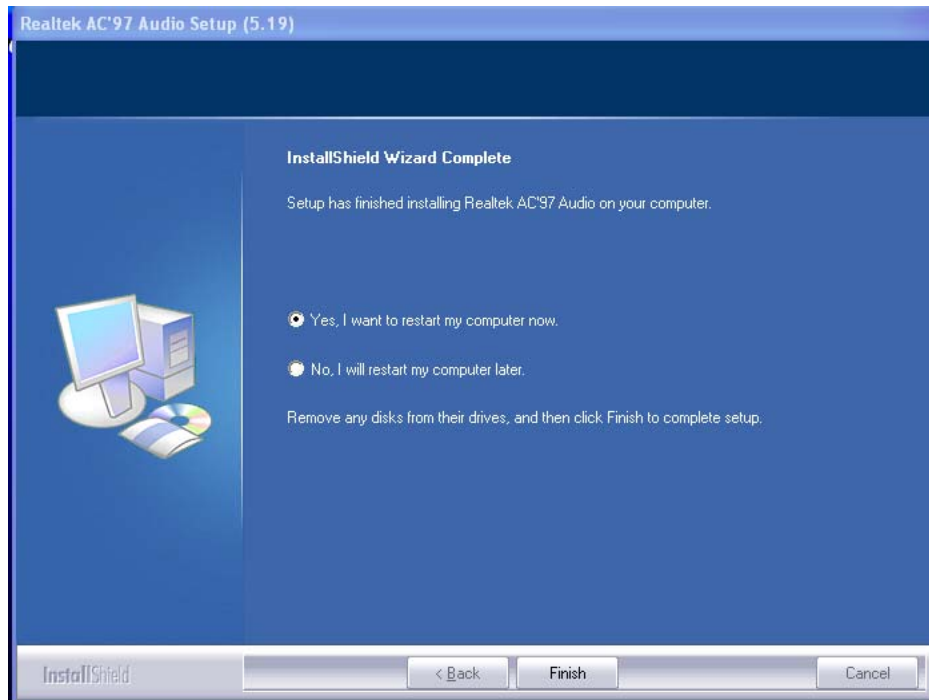

Figure 7-29: AC'97 Driver Installation Complete
Step 8: When the driver is installed, the driver installation finish screen in Figure 7-29 appears.